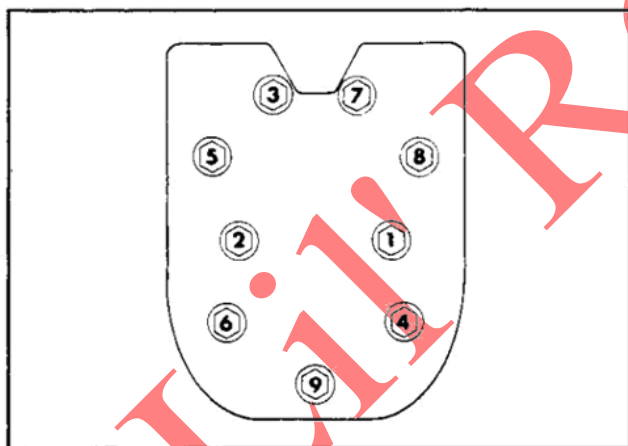

Figure 3-9. Cylinder Head Fastener Tightening Sequence.
3. Reinstall the cylinder heads using new gaskets. Torque the cylinder head fasteners to **15/20 ft. lb.** in the sequence specified in Figure 3-9.